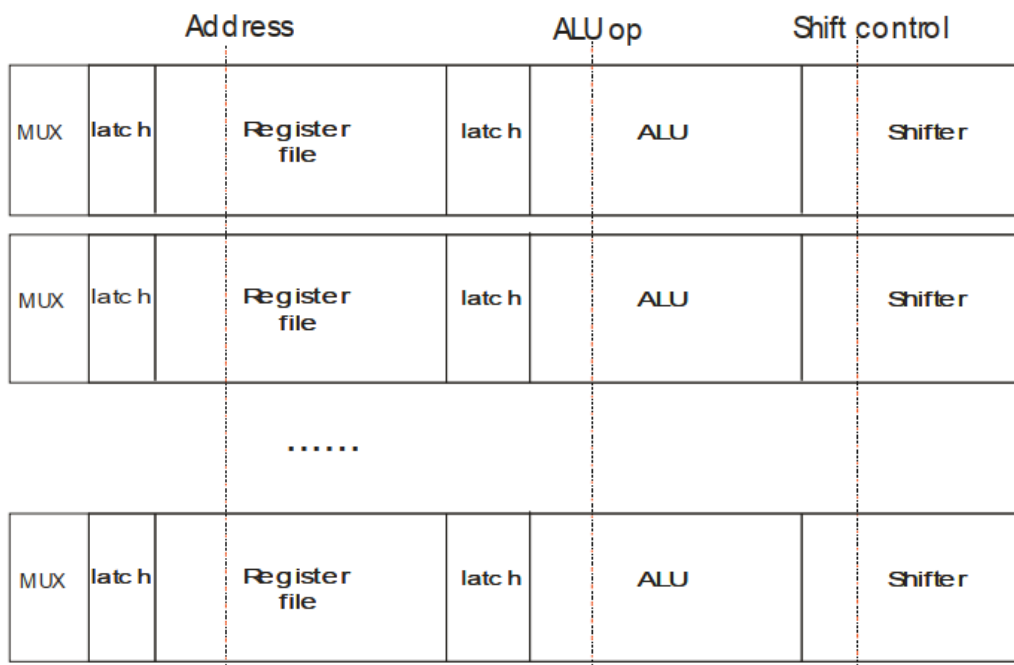

Figure 2: Floorplan of the datapath
- f. **Size specifications:** no specific layout size is required, but optimization of physical size is a design priority, and higher scores will be awarded to groups with smaller layouts. The floorplan in Fig. 2 will assist in achieving an optimal layout.
The 4-bit datapath can be implemented by constructing a 1-bit slice horizontally and stacking 4 one-bit slices vertically. This layout floorplan for the data path is shown in Fig. 2. The data flows horizontally from the left to the right. The control signals run vertically across each slice. You may implement some functional blocks as 4 bits, but make sure you organize it in 1-bit slices that can be pitch-matched to the other functional blocks.